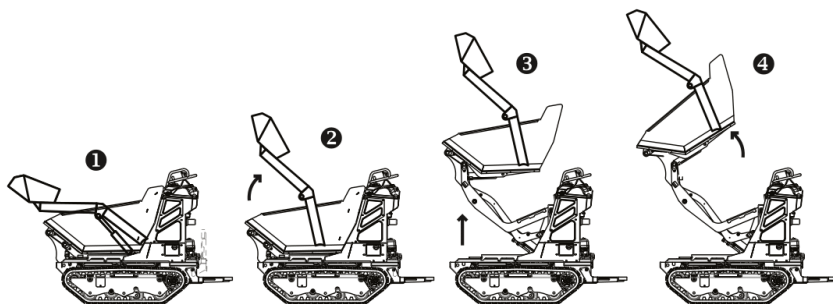

fig. 4.10 – Position for High Dump (HAC)
3. WITH THE MACHINE STOPPED, raise the body to the desired height by pushing the lift lever forward (□ – see Fig. 4.10).
3. Pull back the self-loading lever fully to raise the bucket (□ – see Fig. 4.10).
4. Raise the body to the desired height by pushing the lift lever forward (□ – see Fig. 4.10).